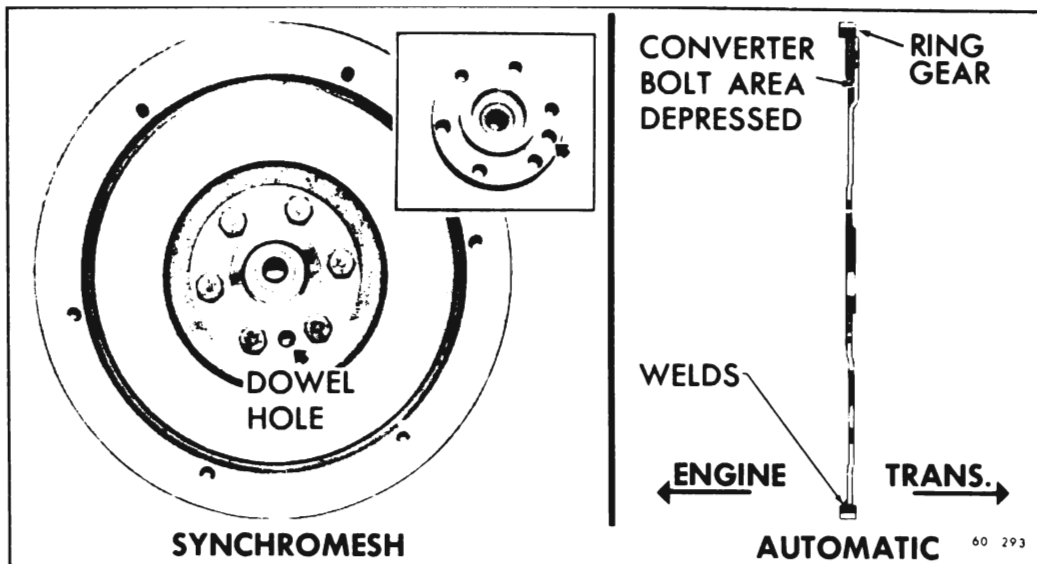

Figure 60-158 - Flywheel Installation
5. Install flywheel on crankshaft and position to align dowel hole of crankshaft flange and flywheel. Install bolts and torque to 60 lb. ft. See Figure 60-158.
installed with the flange collar to transmission side. See Figure 60-158.